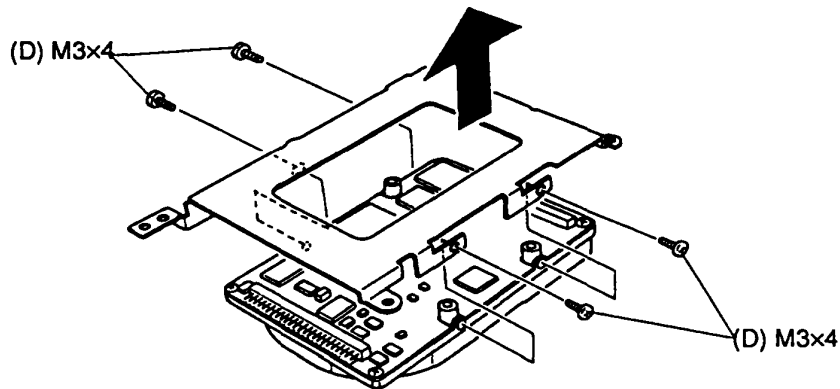

Figure 4-24 Removing the hard disk drive bracket
6. To remove the HDD bracket from the HDD, remove the four (M3x4) screws (D) securing the HDD to the bracket (Figure 4-24).
1. To install the HDD bracket, align the bracket with the four holes on the sides of the HDD (Figure 4-24).